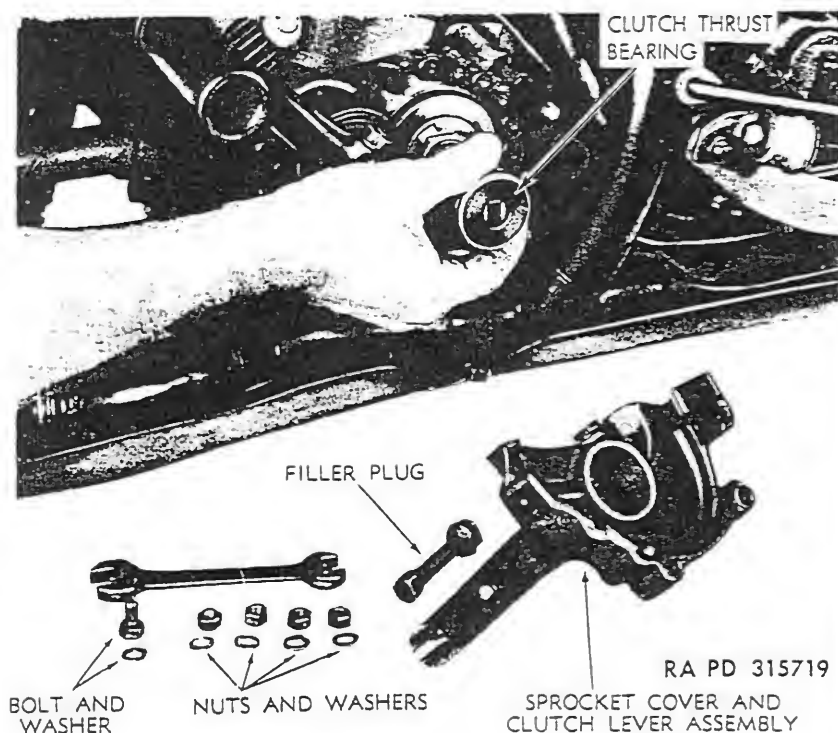

Figure 31—Removing Clutch Releasing Bearing Assembly
(8) Install outer front chain guard (par. 102).
(9) Check controls and clutch adjustment. If necessary, correct according to paragraph 48.
52. REPLACEMENT OF CLUTCH RELEASE BEARING (fig. 31).